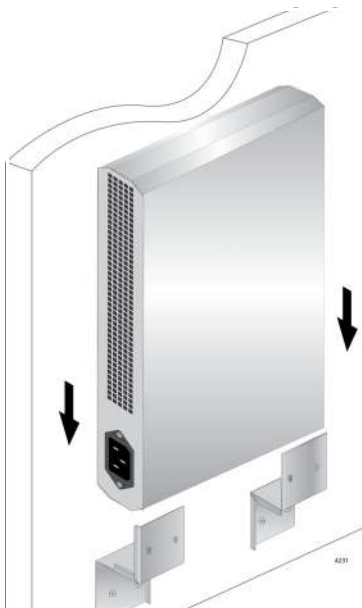

Figure 60. Placing the Switch into the Brackets
8. Slide the switch into the brackets on the wall as shown in Figure 60.